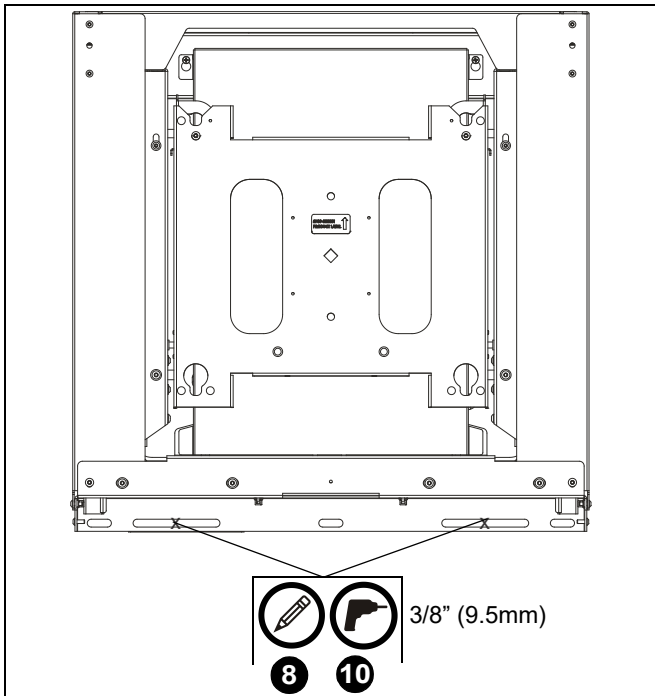

Figure 9
8. Mark hole locations for lower two mounting holes. (See Figure 9)
9. Remove mount (A) from top bracket.
10. Drill two 3/8" holes at marked hole locations. (See Figure 9)